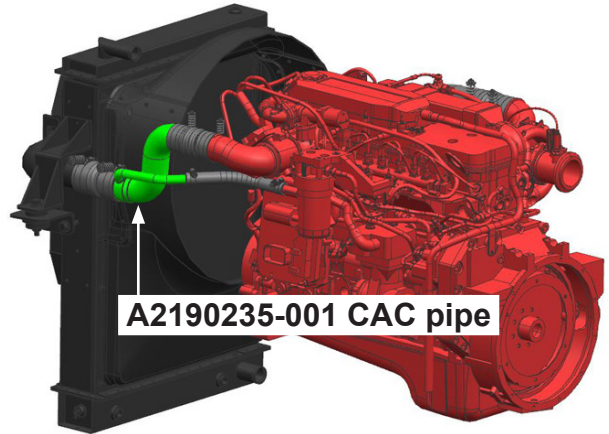

Figure 2
4. Install the new CAC pipe (A2190235-001) and tighten the T-Bolt clamps to 72 in.-lb of torque. Reinstall the constant torque clamp and tighten to 76 in.-lb of torque (See Figure 2).